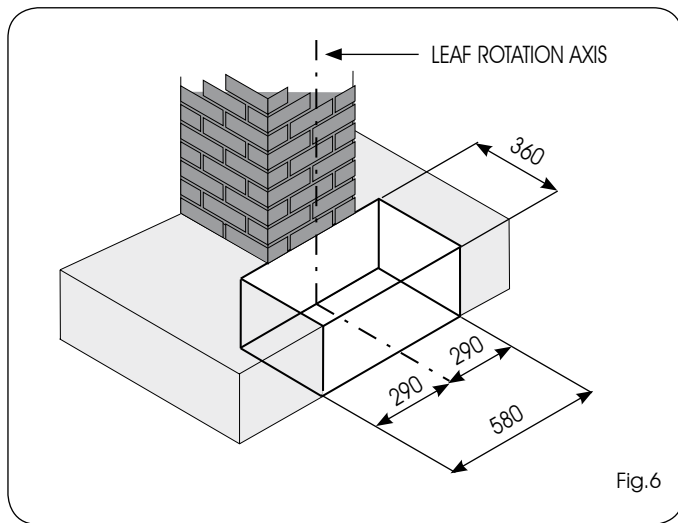

Fig.6
1) Dig a foundation pit as shown in Fig. 6.